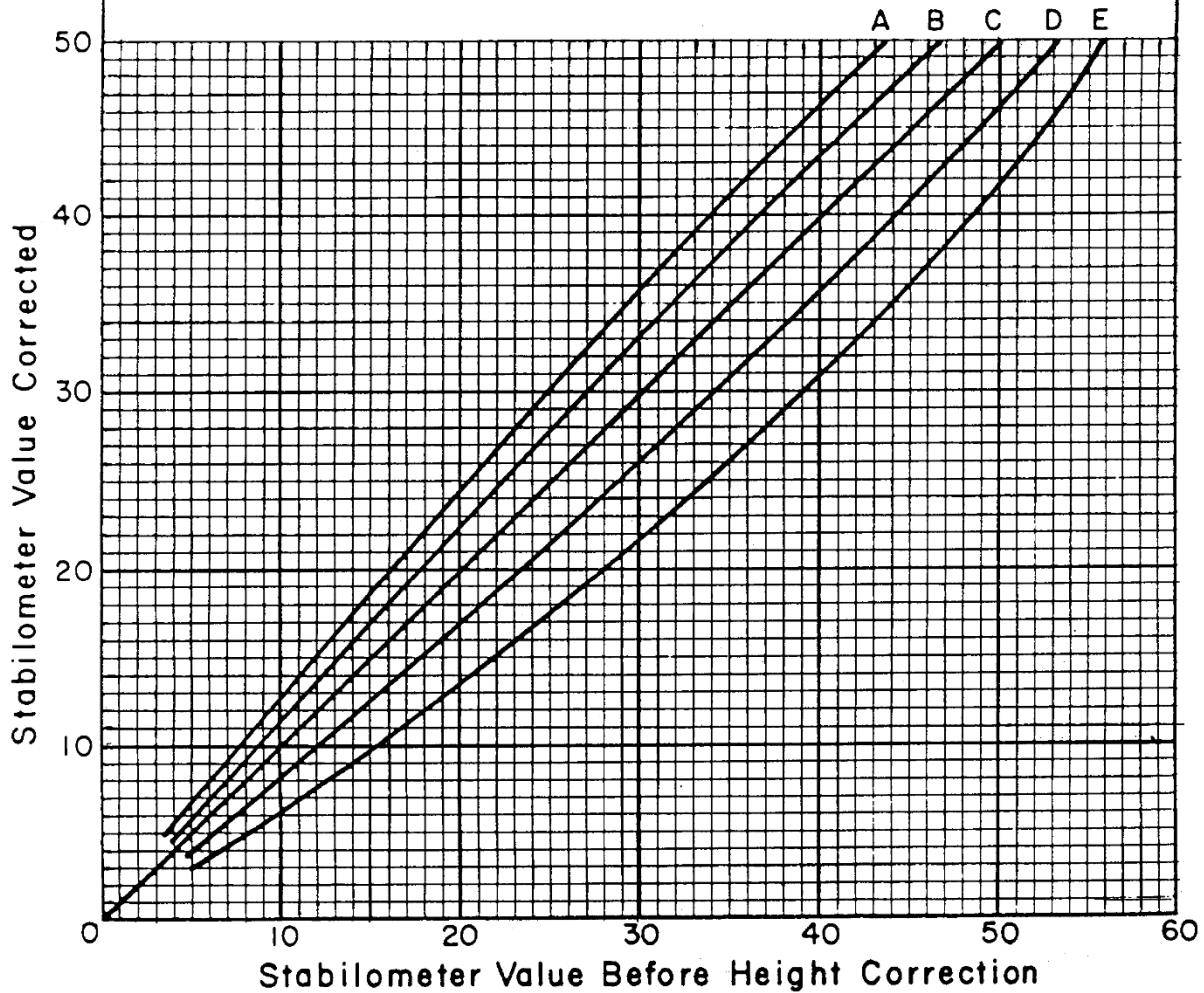

FIGURE 2: CHART FOR CORRECTING STABILOMETER VALUES TO SPECIMEN HEIGHT
- 3.1 *Size of Specimens - Superpave gyratory compactor* - Test specimens shall be 100 mm (3.937 in.) in diameter as produced by the Superpave gyratory compactor in conformance with CP-L 5115. The Stabilometer value shall be corrected as indicated in Subsection 6.2 and by Figure 2.